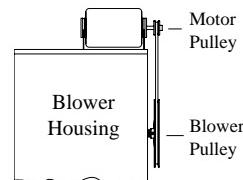

Fig. 2
• **Install pulley.** Install the adjustable motor pulley so that it aligns with the blower drive pulley (see Fig. 2) and tighten set screw. See page 3 for instructions on adjusting pulley.